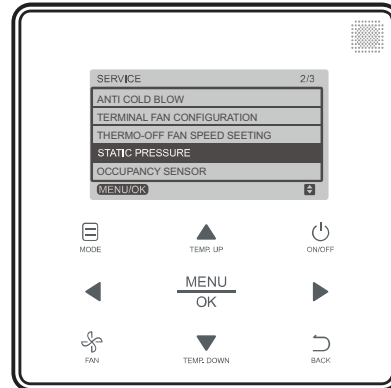

Fig. 17 —Static Pressure
3. Choose STATIC PRESSURE as shown in Fig. 17.